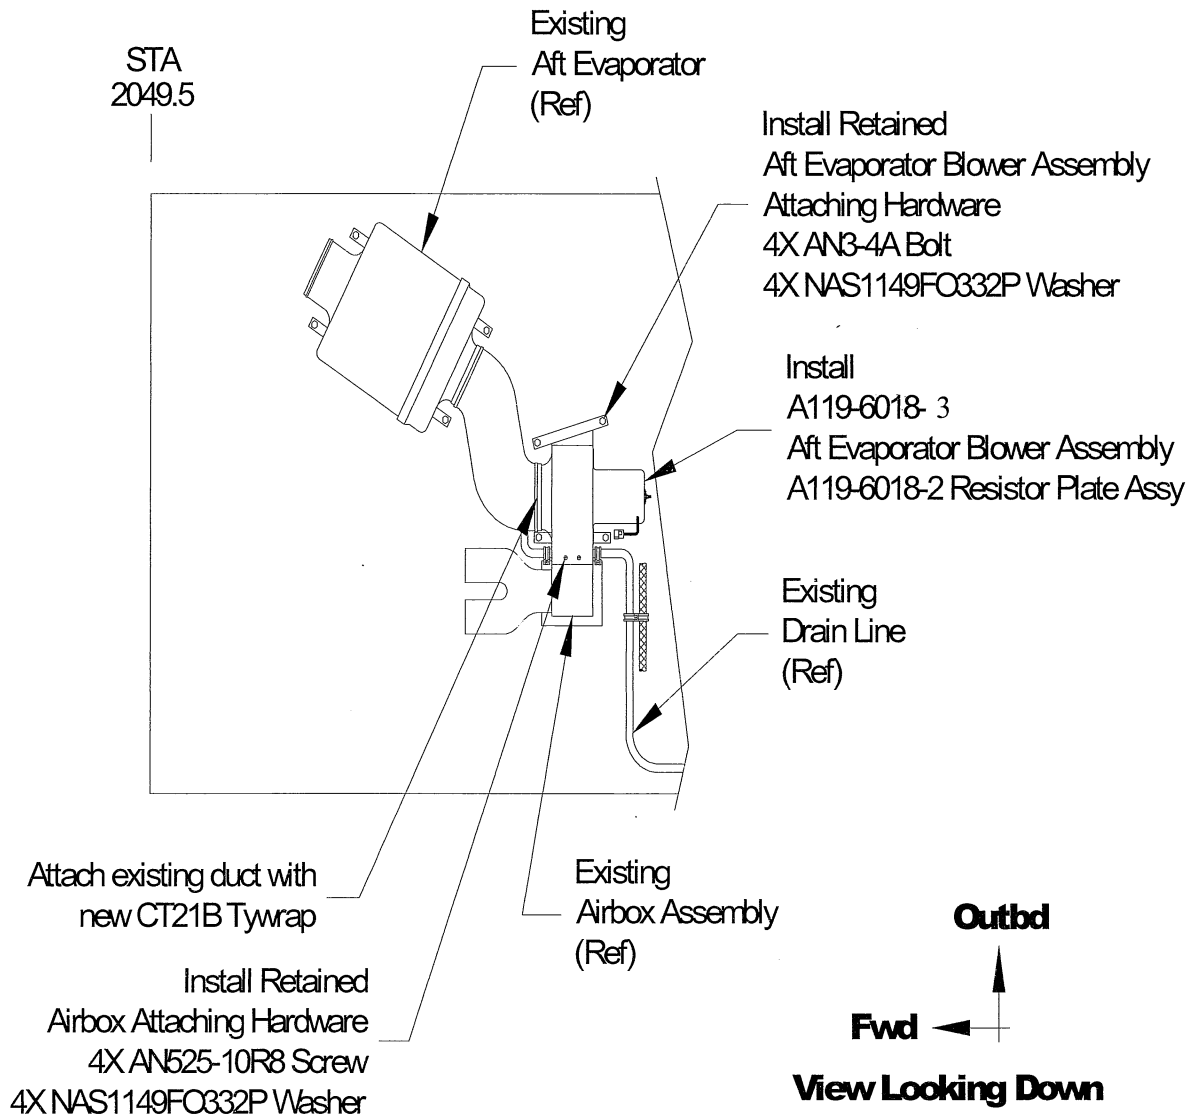

Figure 2
Aft Evaporator Blower Assembly Installation (Refer to Figure 2):
6. Install A119-6018-1 aft evaporator blower assembly by reversing the removal instructions of the A119-6016-1 aft evaporator blower assembly. The A119-6018-2 Resistor Plate Assy is positioned between the A119-6018-3 blower and the existing mount angles using the existing hardware. (Refer to Figure 2). Connect the blower motor connector to the resistor plate assy (two pin) and the power input (3 pin) to the other connector on the resistor plate assy.